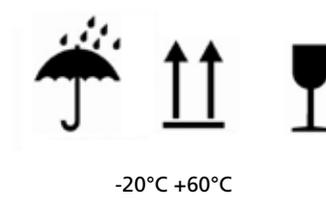

fig.13
- ▶ If necessary, the packaging can include signs and pictograms that provide important information regarding handling and transport (weight, lifting points, storage information, etc.) - (fig. 13).